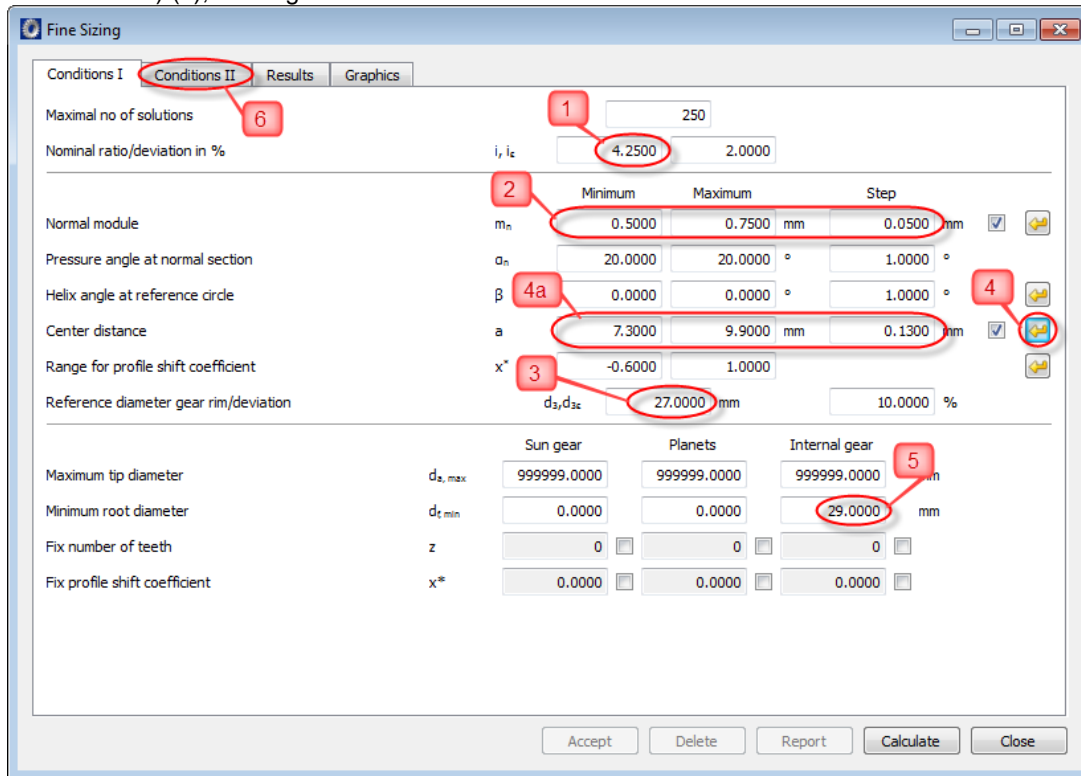

**Figure 2.15** Calculate, check the results and call the Fine sizing function
After you have defined the tolerances, you may want to input a better value for the facewidth (in this example we are leaving the values unchanged (1), see Figure 2.15). Click [Calculate F5] (2). You now see the first results of the roughly sized planetary gear set in the "Results overview" (2a) (Figure 2.15).
This completes the presizing step. This is used to provide the Fine sizing function with values that are approximately the correct size for the subsequent processing steps. Now, to generate an optimized solution, click the Fine sizing (3) button Figure 2.15.